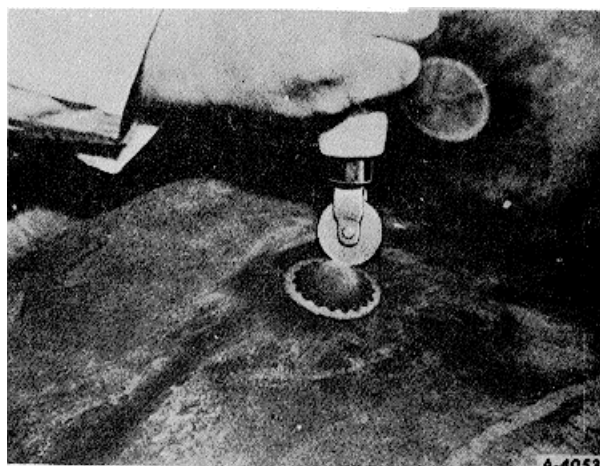

Fig. 19
9. Remove backing from patch base and place patch over injury. Press down firmly, especially at the edges, for good adhesion (and easy removal of paper cover)(Fig. 19).